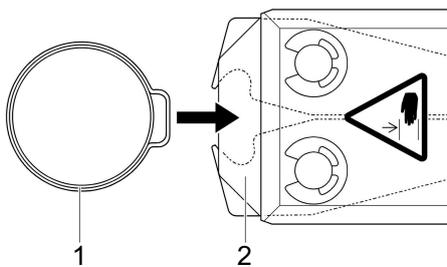

Fig. 14: Insert clamp
1. Insert the ear of the OETIKER clamp (Fig. 14/1) into the clamping area of the pincer head (Fig. 14/2).